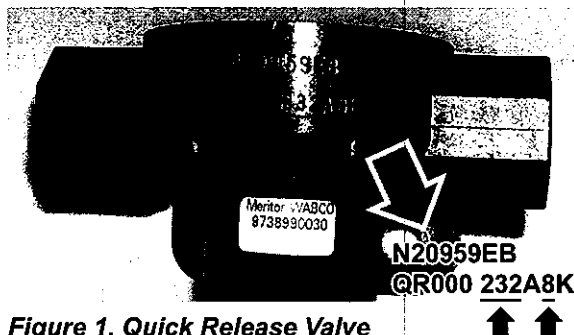

Figure 1, Quick Release Valve
Autocar has determined that a defect occurs in the QRV's of the affected vehicles. (See *Figure 1*) Autocar based its determination of the affected vehicle range on the QRV supplier's reported time line of production of the affected QRV's commencing 27 May 2008 with a Julian date code of 148 (in 2008) and continuing through 15 October 2008 with a production date code of 289 (in 2008).
Note the location of the Julian date code on the QRV. (See *Figure 1*)
The first step in determining whether a QRV is affected is to determine whether it was manufactured in 2008. The digit that is relevant to your determination of the year of manufacture is the second-to-last digit of the last grouping (the number "8" on *Figure 1* below). If that number is NOT 8, then the QRV does NOT need to be replaced. If that number is 8, then locate the first (3) digits of the last grouping (the numbers "232" on *Figure 1* below). If those (3) numbers are within 148-289, then the QRV must be replaced.